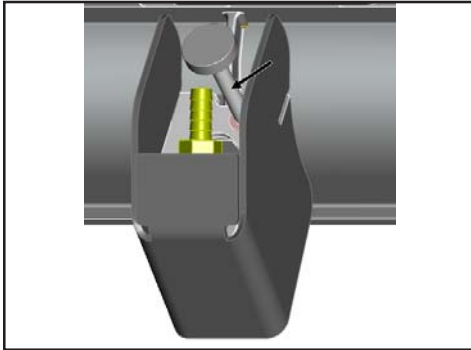
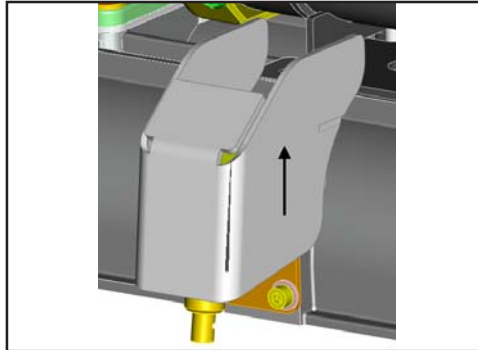

Figure 1
Figure 2
2. Loosen the lower wing nut (**B**) on the adjusting screw (**C**) and adjust the squeegee using the adjusting screw so that the ends of the squeegee blades still have contact with the floor. By turning the adjusting screw (**C**) counterclockwise, the clearance between squeegee blade and floor is **increased** in the center (Fig. 1). When turning the adjusting screw (**C**) clockwise, the clearance between squeegee blade and floor is **reduced** in the center (Fig. 2).
1. Remove knob located above sprayjet (Figure 1).
2. Pull sprayjet cover up and hold for easy access to spray tip (Figure 2).